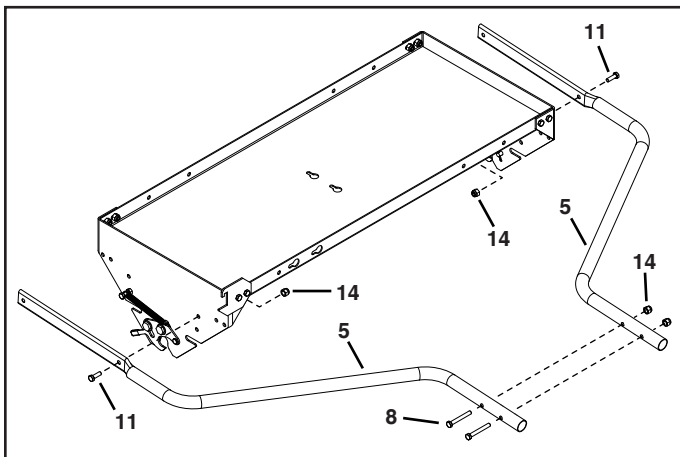

FIGURE 2
6. Attach the hitch tubes (5) to the front holes of the tray assembly using two 5/16 x 1" hex bolts (11) and 5/16" nylock nuts (14). **Do not tighten yet.** See figure 2.
7. Secure the fronts of the hitch tubes together using two 5/16 x 2-1/2" hex bolts (8) and 5/16" nylock nuts (14). **Do not tighten yet.** See figure 2.
11. Attach the lift tube assembly (2) to the rear hole on the left side of the tray using a 5/16 x 1-1/2" hex bolt (10) and 5/16" nylock nut (14). **Tighten** the nut then loosen 1/2 turn.
12. **Tighten** the nuts and bolts shown in figures 2 and 3.